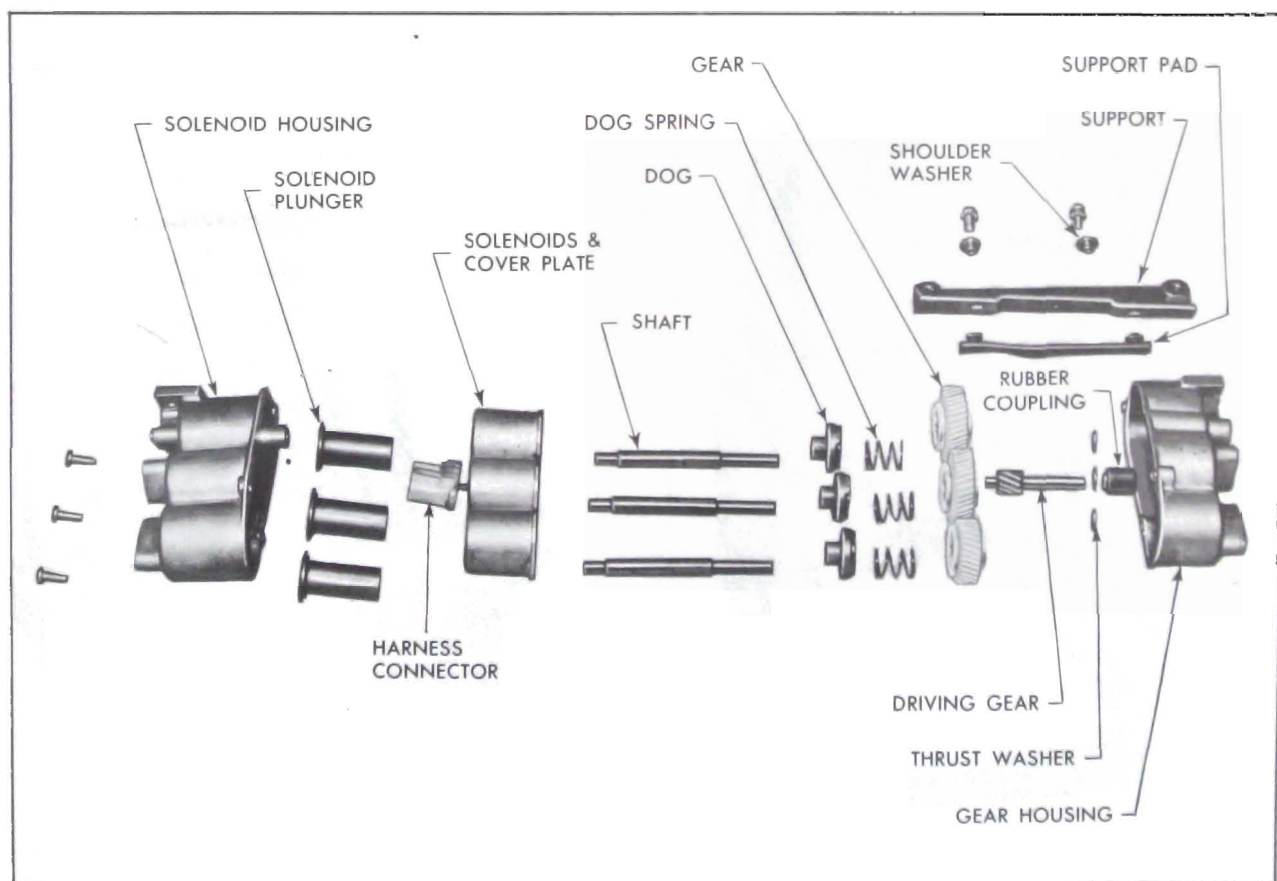

Figure 5-9—Six-Way Seat Transmission Assembly
housings and remove component parts of transmission assembly (Figure 5-9).
4. To assemble transmission, reverse removal procedure. Figure 5-9 is an exploded view of disassembled transmission showing parts in proper relationship for installation.